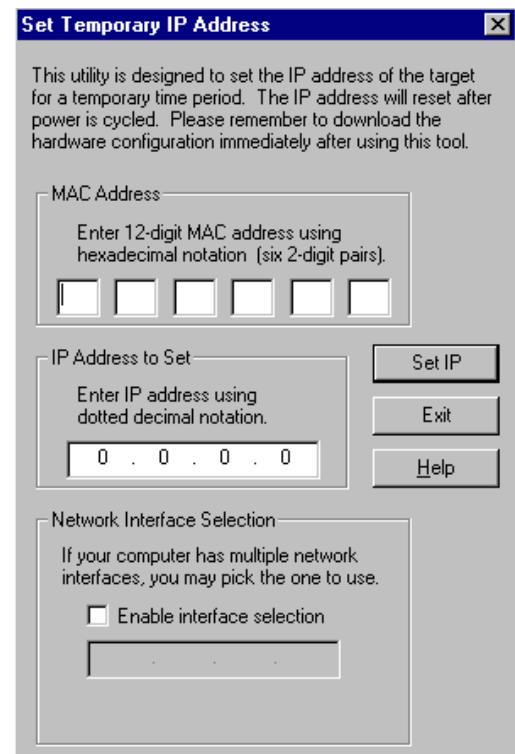

Figure 28: Set Temporary IP Address
2. In the Project tab of the Navigator, right click the PACSystems target, choose Offline Commands, and then choose Set Temporary IP Address. The Set Temporary IP Address dialog box (Figure 28) appears.